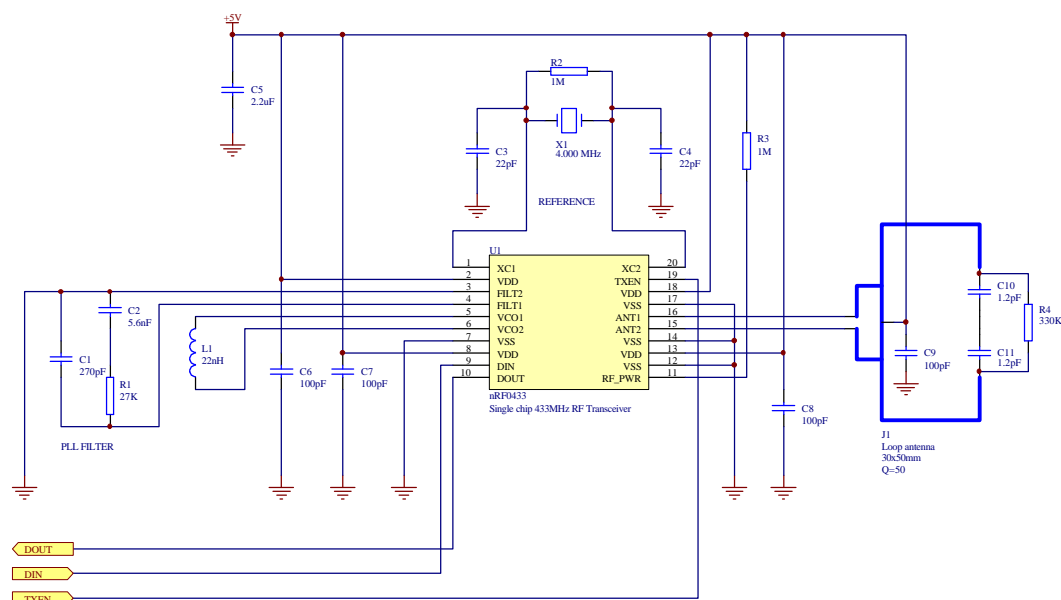

Figure 7. nRF0433 application Schematic.
Figure 7 shows a typical application schematic with a differential loop antenna on a Printed Circuit Board (PCB). If a single ended 50Ω antenna is preferred, the most convenient solution is to connect the antenna to nRF0433 using an 8:1 impedance transformer as a balun, see figure 6a). The transformer must have a centre tap at the primary side (primary side connected to the ANT1/ANT2 pins), as explained below.
The output stage (PA) consists of two open collector transistors in a differential pair configuration. +5V DC to the PA must be supplied through the collector load. When connecting a differential loop antenna to the ANT1/ANT2 pins, +5V DC should be supplied through the centre of the loop antenna as shown in figure 7. When using an 8:1 impedance transformer as a balun, +5V DC to the PA should be supplied through the centre tap at the primary side of the transformer as shown in figure 6a).
Output power is set by the external bias resistor R3 connected between RF_PWR and +5V as shown in figure 7. The RF output power can be set to one of four levels as shown in table 5.
Figure 8 shows a PCB layout example for the application schematic in Figure 7. A double-sided FR-4 board of 1.6mm thickness is used. This PCB has a continuous ground plane on the bottom layer. Additionally, there are ground areas on the component side of the board to ensure sufficient grounding of critical components. A large number of via holes connect the top layer ground areas to the bottom layer ground plane. There is no ground plane behind the antenna.